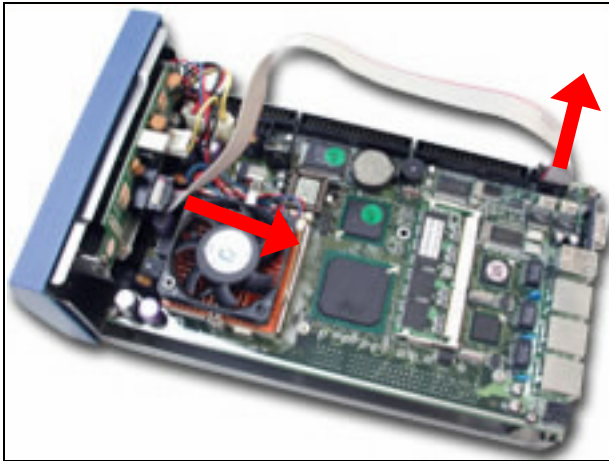
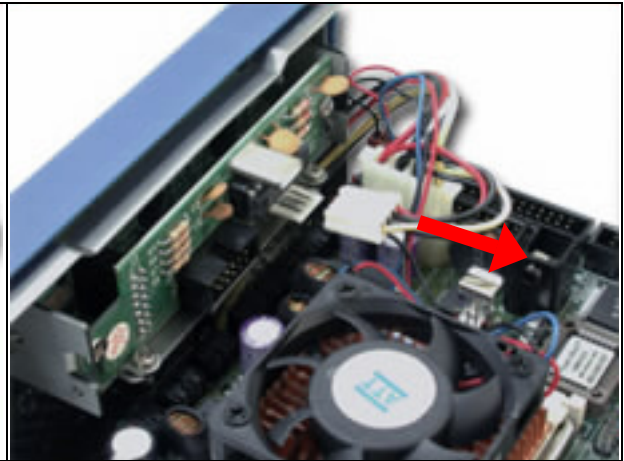

Fig. 2-22 Remove the COM port cable
Fig. 2-23 Remove power connector from EZIO
1. Remove EZIO COM port cable (*Fig. 2-22*) and the power connector from EZIO (*Fig. 2-23*).